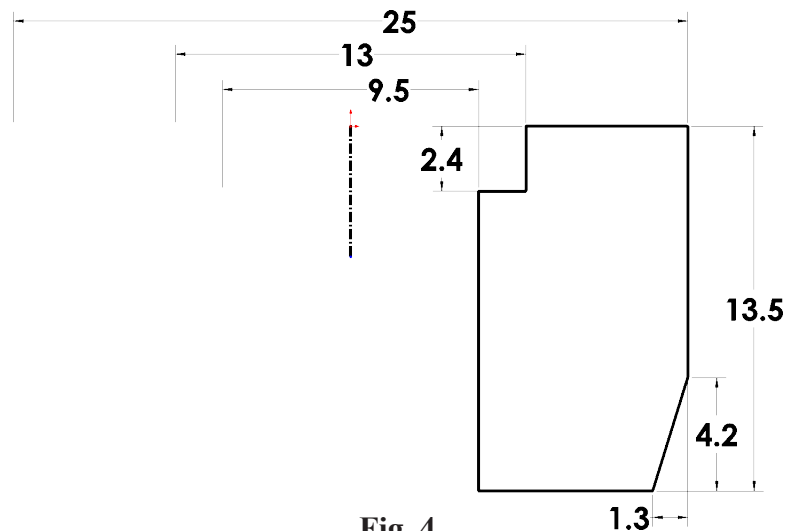

Fig. 4
Step 7. Click **Smart Dimension**  (S) on the Sketch toolbar.
Step 8. Add dimensions, **Fig. 4**. Dimension **double distance**. To double distance dimension, click centerline and then vertical line, move the cursor to left of centerline (Origin) and click. Key-in dimension in the Modify box and press ENTER. Double distance 9.5, 13 and 25 dimension.